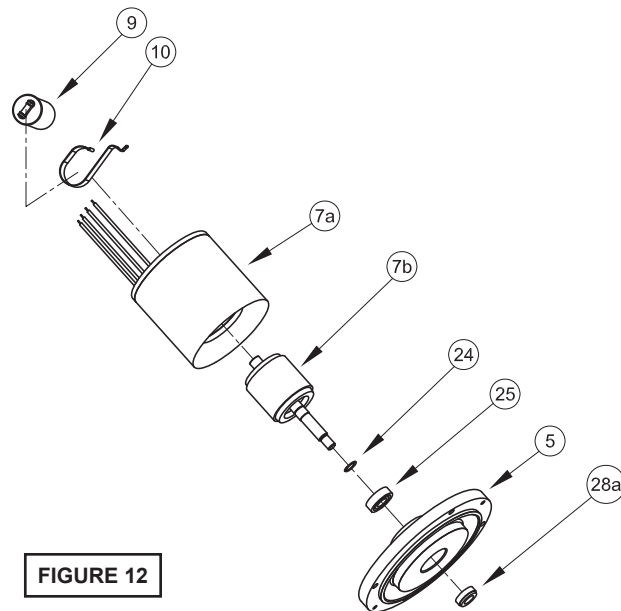

FIGURE 12
Check power cables (16) and control cable (56, if used), for cracks or damage and replace if required (see Figure 12).